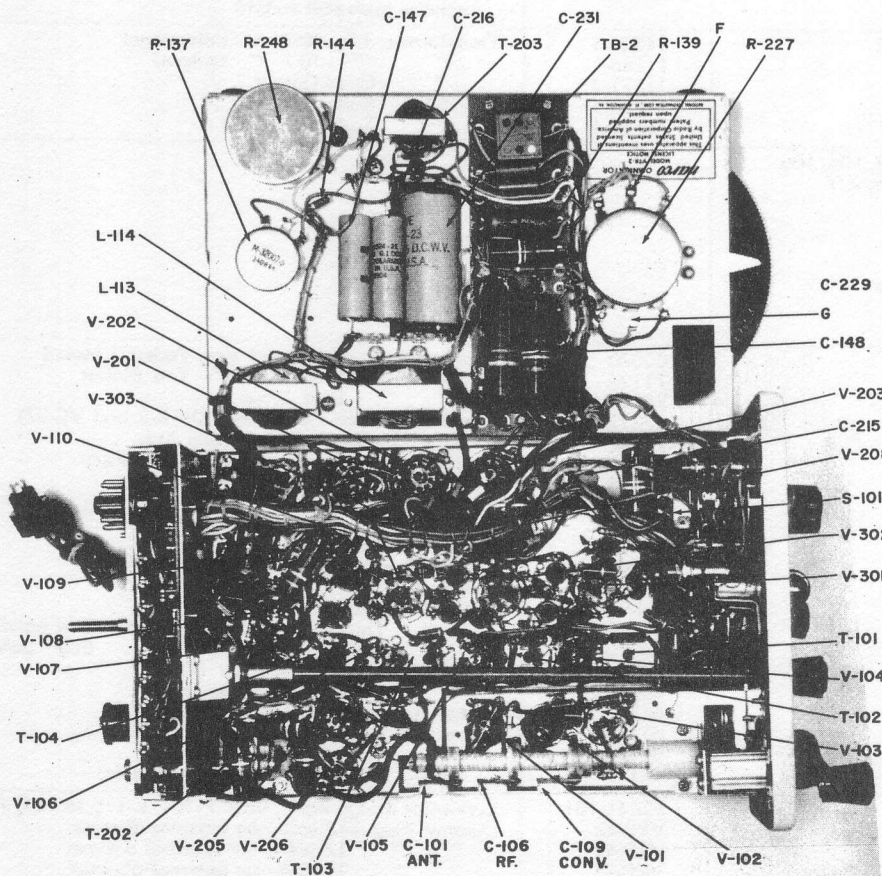

Figure 22. OPENED VIEW
1. Connect a LOW-range ohmmeter to the center arm terminal, and to the 180° tap terminal of the course selector potentiometer. (Points F and G in Figure 22).